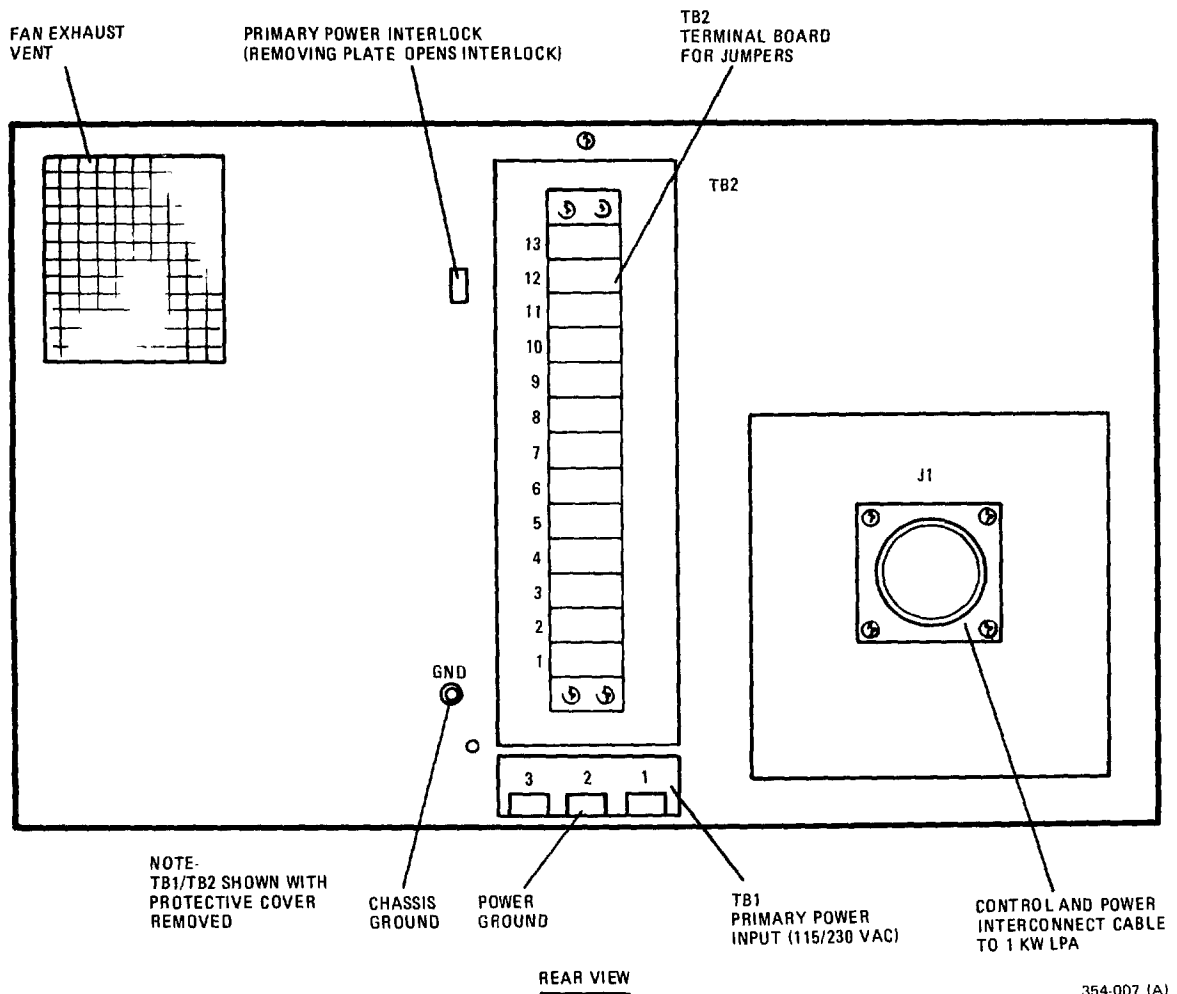

Figure 2-2. Rear Panel Detail and Strapping Instructions
- a. Power Source. Power requirements are identified in table 1-1 (see chapter 1 of this manual). Figure 2-2 shows rear panel detail and gives power supply strapping instructions. Consideration must be given to the type and size of power cable used to allow for the voltage and current that is required (table 1-1).
c. See figure 2-2 for primary power strapping information.
- d. Verify power supply primary power strapping according to figure 2-2.